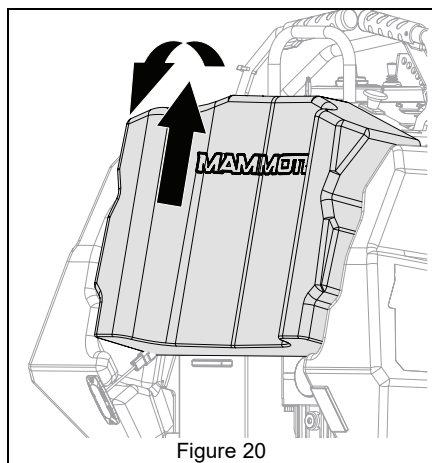

Figure 20
1. Lift access pad up and then rearward to remove. See Figure 20.